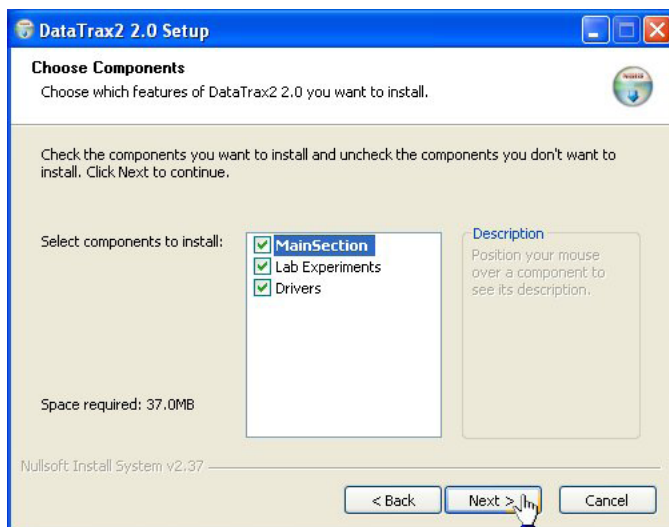

Fig. 21—Component Choice
- After reviewing the license agreement, click the **I Agree** button. The wizard will then ask for a choice of components to install (Fig. 21).